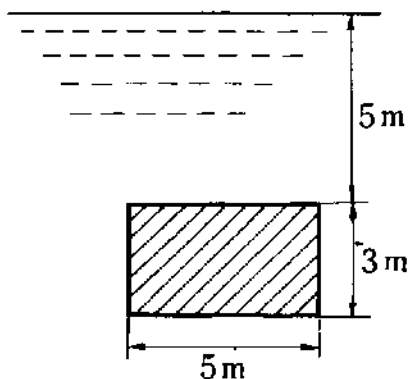

Fig. 3.25
5. In the case shown in Fig. 3.25, an oblong board 3 m high and 5 m wide is placed vertically in water in such a manner that its upper face is 5 m deep. Obtain the force acting on this board and the location of the centre of pressure.